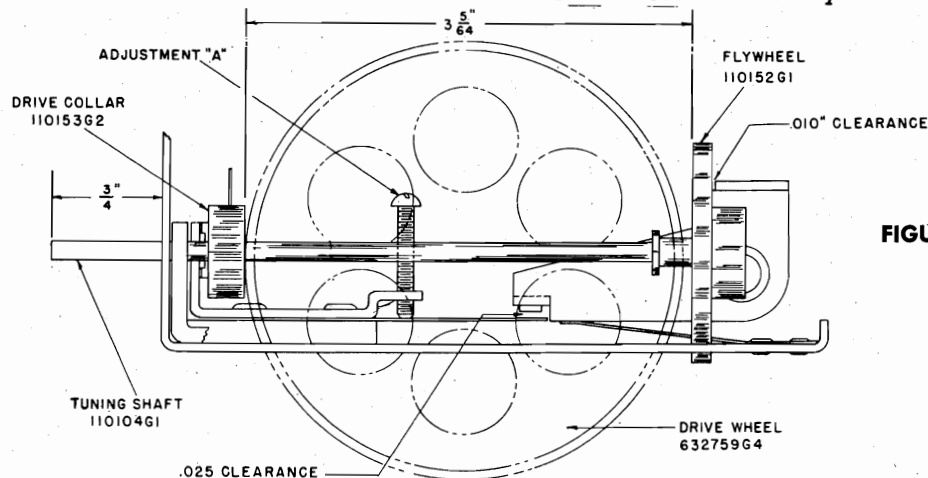
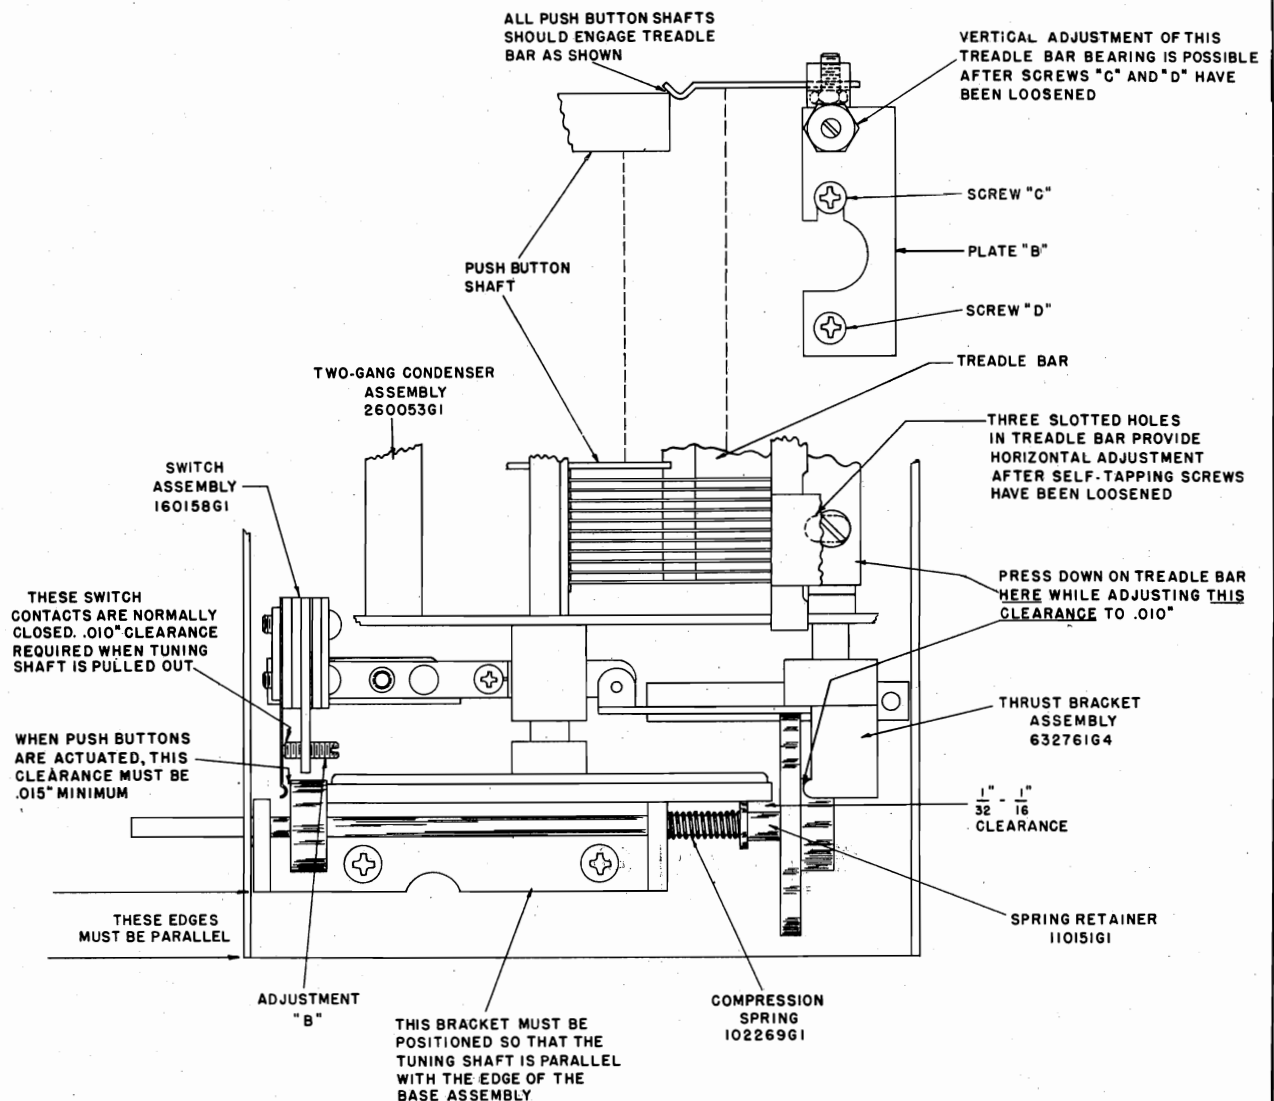

FIGURE 2
FIGURE 3
Whenever any of the mechanical parts in the condenser gang drive assembly require replacement due to rough handling or for any other reason, it is extremely important that clearances and adjustments shown on Figures 2 and 3 are effected; otherwise the tuning mechanism will be sluggish or it may slip during operation.
1. Assemble the Tuning Shaft, Drive Collar, Compression Spring, Spring Retainer and Flywheel in the manner shown on Figure 3. Note that the Tuning Shaft must extend $\frac{3}{4}$ " from the front of the assembly and that the spacing between the rear of the Drive Collar and the front of the Flywheel must be $3\text{-}\frac{5}{64}$ ". Any excess length in the Tuning Shaft may extend beyond the rear of the Flywheel. See Figure 2.
2. The distance between the rubber-tired Drive Wheel and the smaller diameter section of the Spring Retainer must be $\frac{1}{32}$ " to $\frac{1}{16}$ " (Figure 3). This adjustment is effected by loosening the two No. 6 Allen set screws in the Drive Wheel hub and sliding the wheel on its shaft until the required clearance is obtained. When the adjustment is completed, tighten the two screws in the hub of the Drive Wheel.
3. While pressing down on the Treadle Bar at the location shown on Figure 3, adjust the Thrust Bracket until the clearance between the rear of the Flywheel and the projection on the Thrust Bracket is .010" as shown on the diagram. To make this adjustment, loosen the two No. 6 Allen set screws (use No. 6 Allen Wrench—Magnavox Part No. 800044G2) in the hub of Thrust Bracket and rotate the bracket until the specified clearance is obtained when the push buttons are NOT actuated. Tighten the two screws securely when the adjustment is completed. Press each push button and check that the Drive Collar is pushed away from the rubber-tired Drive Wheel.
4. Next, adjust the clearance in the muting switch contacts by turning the Phillips-head screw designated Adjustment "A" on Figure 2, until the specified clearance of .025" is obtained (when the push but-
This can usually be accomplished by loosening the two screws designated "C" and "D" on Figure 3, and moving plate "B" in the direction required to correct this condition.